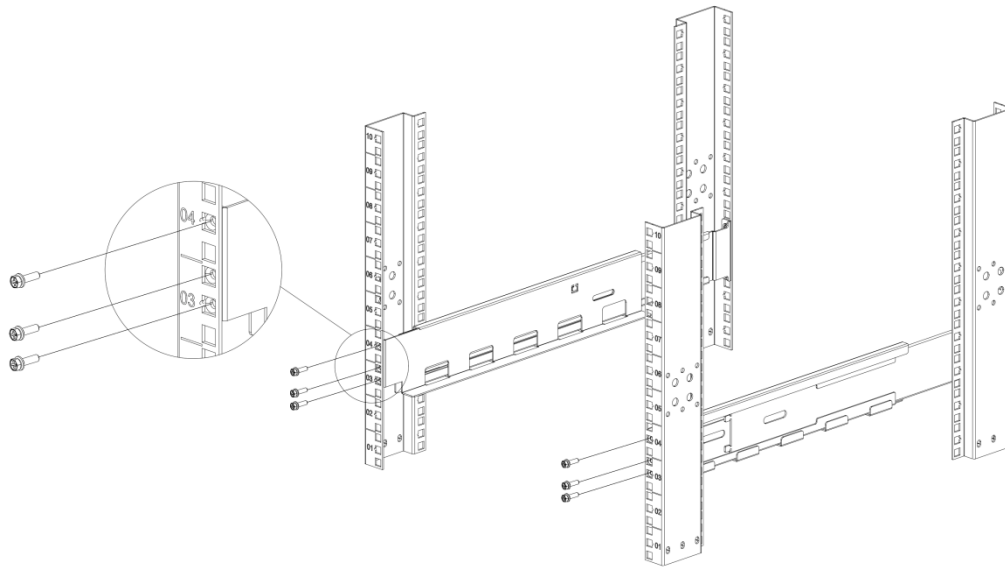

**Figure 24: Secure the Mounting Brackets to the Rack**
11. Align the mounting brackets with the screw holes on the rack and secure the UPS with the supplied 4x Phillips Hex Head M5 screws (see Figure 24).